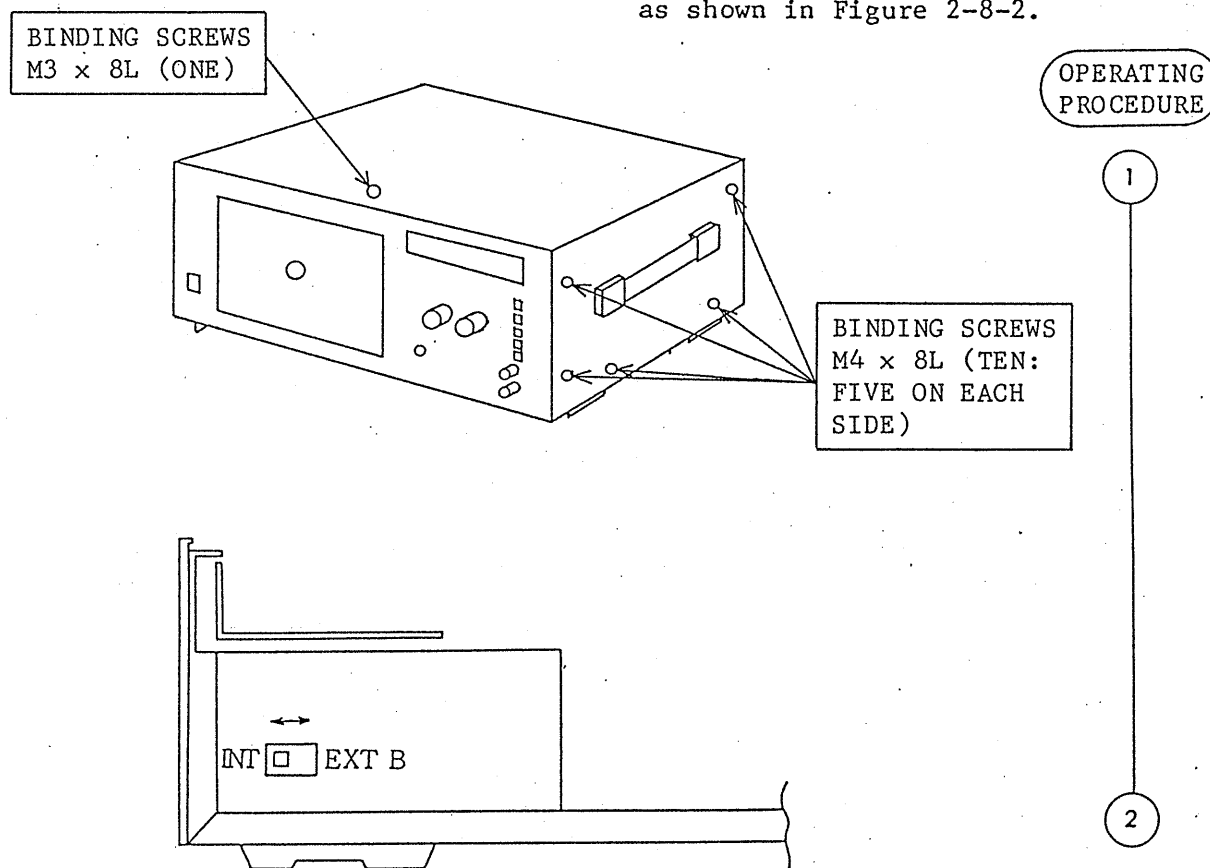

Figure 2-8-2 Slide switch setting
(1) To set the Load to the EXT LOAD B mode, remove the case cover and change the internal slide switch as shown in Figure 2-8-2.
When in the constant resistance mode, the Load can be remote-controlled with an external resistance signal. For this operation, set the internal slide switch referring to Figure 2-8-2.